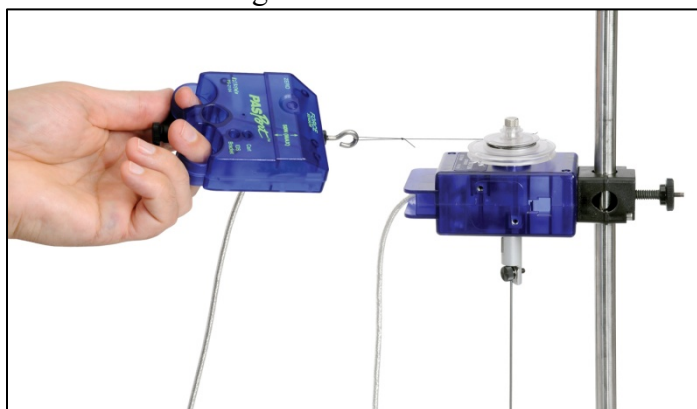

Figure 4: Measuring the Torque
5. Hold the force sensor parallel to the table at the height of the large pulley and prepare to pull it straight out as shown in Figure 4.